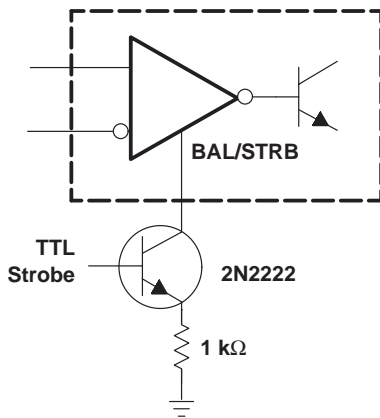

Figure 13. Strobing
7. The strobe should not be shorted to ground; it should be current driven at  $-3\text{ mA}$  to  $-5\text{ mA}$  (see Figures 13 and 27).
7. The strobe should not be shorted to ground; it should be current driven at -3 mA to -5 mA (see Figures 13 and 27).